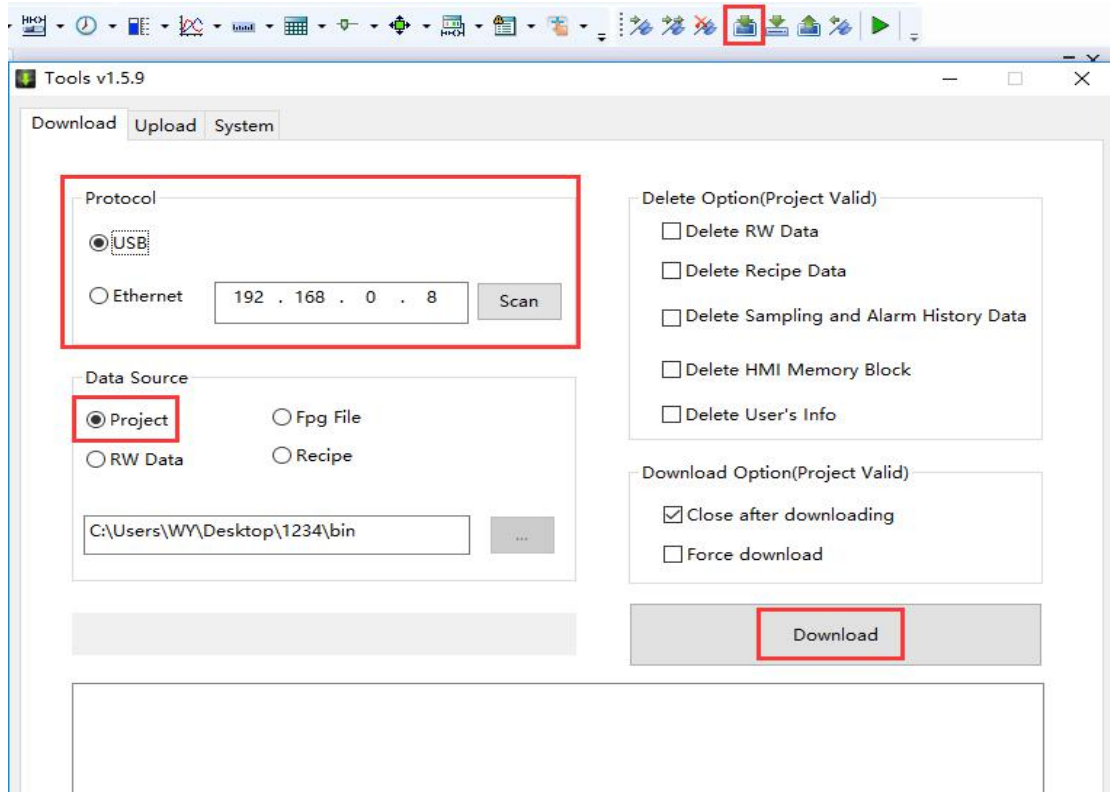

Fig.4.4-2 Download configuration via USB or Ethernet
(2) Set the communication parameters in the "Communication Connection" dialog, such as select the PLC driver in the "Device Type" option, specify a preset station number in the "Pre-set Station No." option, set the baud rate and other parameters in the "Communication Setting" area, and so on. You need set these parameters according to the actual application.
(3) Compile the project and download the configuration of the device connection to the FBox device via USB or Ethernet cable. When the download is via Ethernet, you need input the FBox IP address, you can get it by clicking "Scan", as shown in Fig.4.4-2.